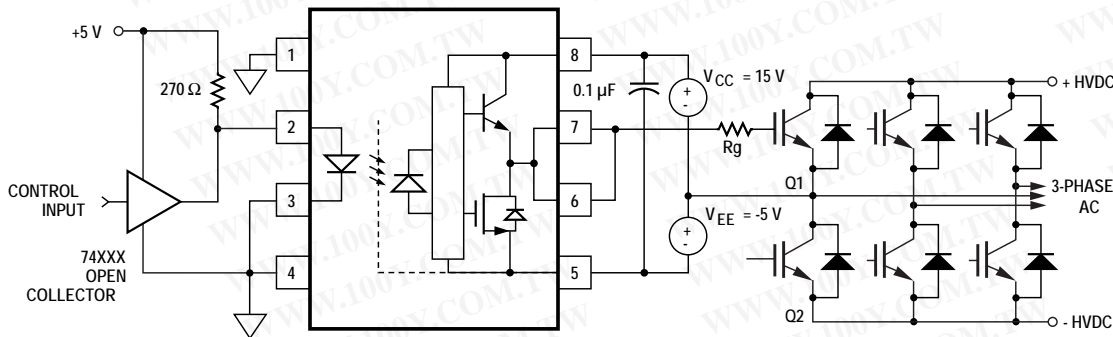

Figure 30. ACPL-3130 Typical Application Circuit with Negative IGBT Gate Drive.
**Step 1:** Calculate  $R_g$  minimum from the  $I_{OL}$  peak specification. The IGBT and  $R_g$  in Figure 30 can be analyzed as a simple RC circuit with a voltage supplied by the ACPL-3130.
For the circuit in Figure 30 with  $I_F$  (worst case) = 16 mA,  $R_g = 8 \Omega$ , Max Duty Cycle = 80%,  $Q_g = 500$  nC,  $f = 20$  kHz and  $T_A \text{ max} = 85^\circ\text{C}$ :